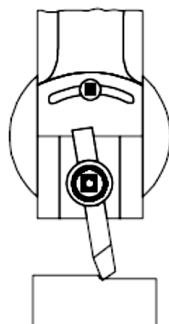

Fig. 23.7 Machining horizontal vertical surface on shaper
1. Machining horizontal surface (Fig. 23.7)